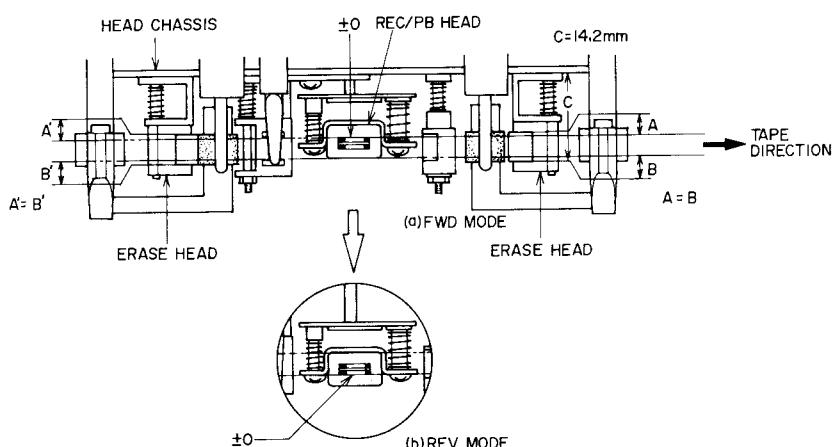

Fig. 11
Adjust by turning the adjustment nut until the height, taken from the surface of the Head Chassis to the lower tip of the Erase Head Core (Fig. 11 C) is 14.2 mm
- 2) The adjustment to Tape Guides (A) and (B) are carried out with the Erase Head at the standard height. Put into the FWD mode and and adjust Tape Guide (A). Make the width of the sections (A and B in Fig. 11) protruding from both ends of the tape of the left side Erase Head the same.
Next in the REV mode adjust Tape Guide (B) until A and B in Fig. 11 are the same. Finally, in either FWD or REV modes. Check that the tape is running smoothly without catching on the tape guides.